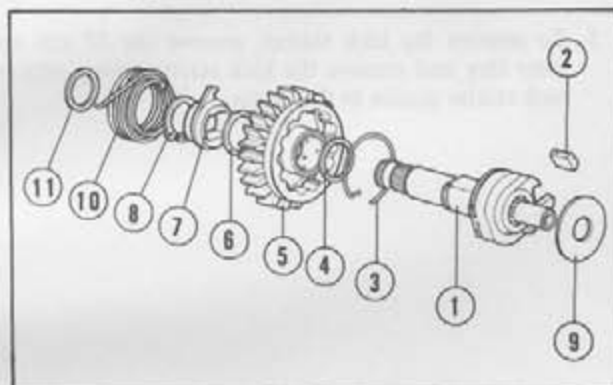

Fig. 4-57
② Tachometer gear collar
③ Thrust washer
④ Oil seal
2. Assemble the kick starter in that order shown in Fig. 4-57.